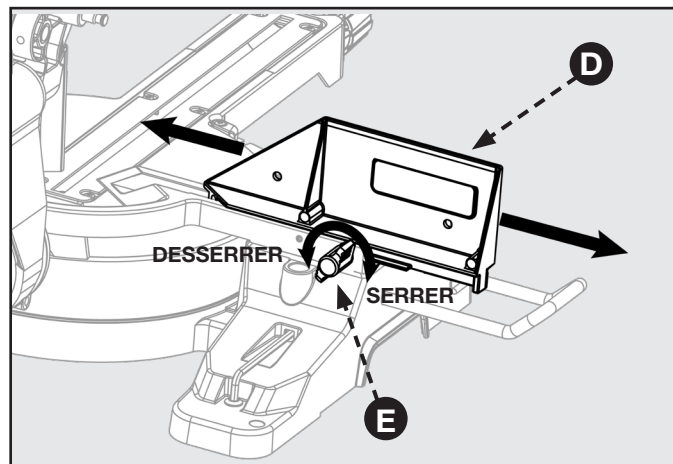

FIGURE 25
This saw is equipped with an adjustable extension fence. To extend or retract the fence refer to Figure 25 and follow these instructions: Loosen the wing nut (E) by rotating counterclockwise and slide the fence (D) into the desired position. Make sure to re-tighten wing nut (E) by rotating clockwise.